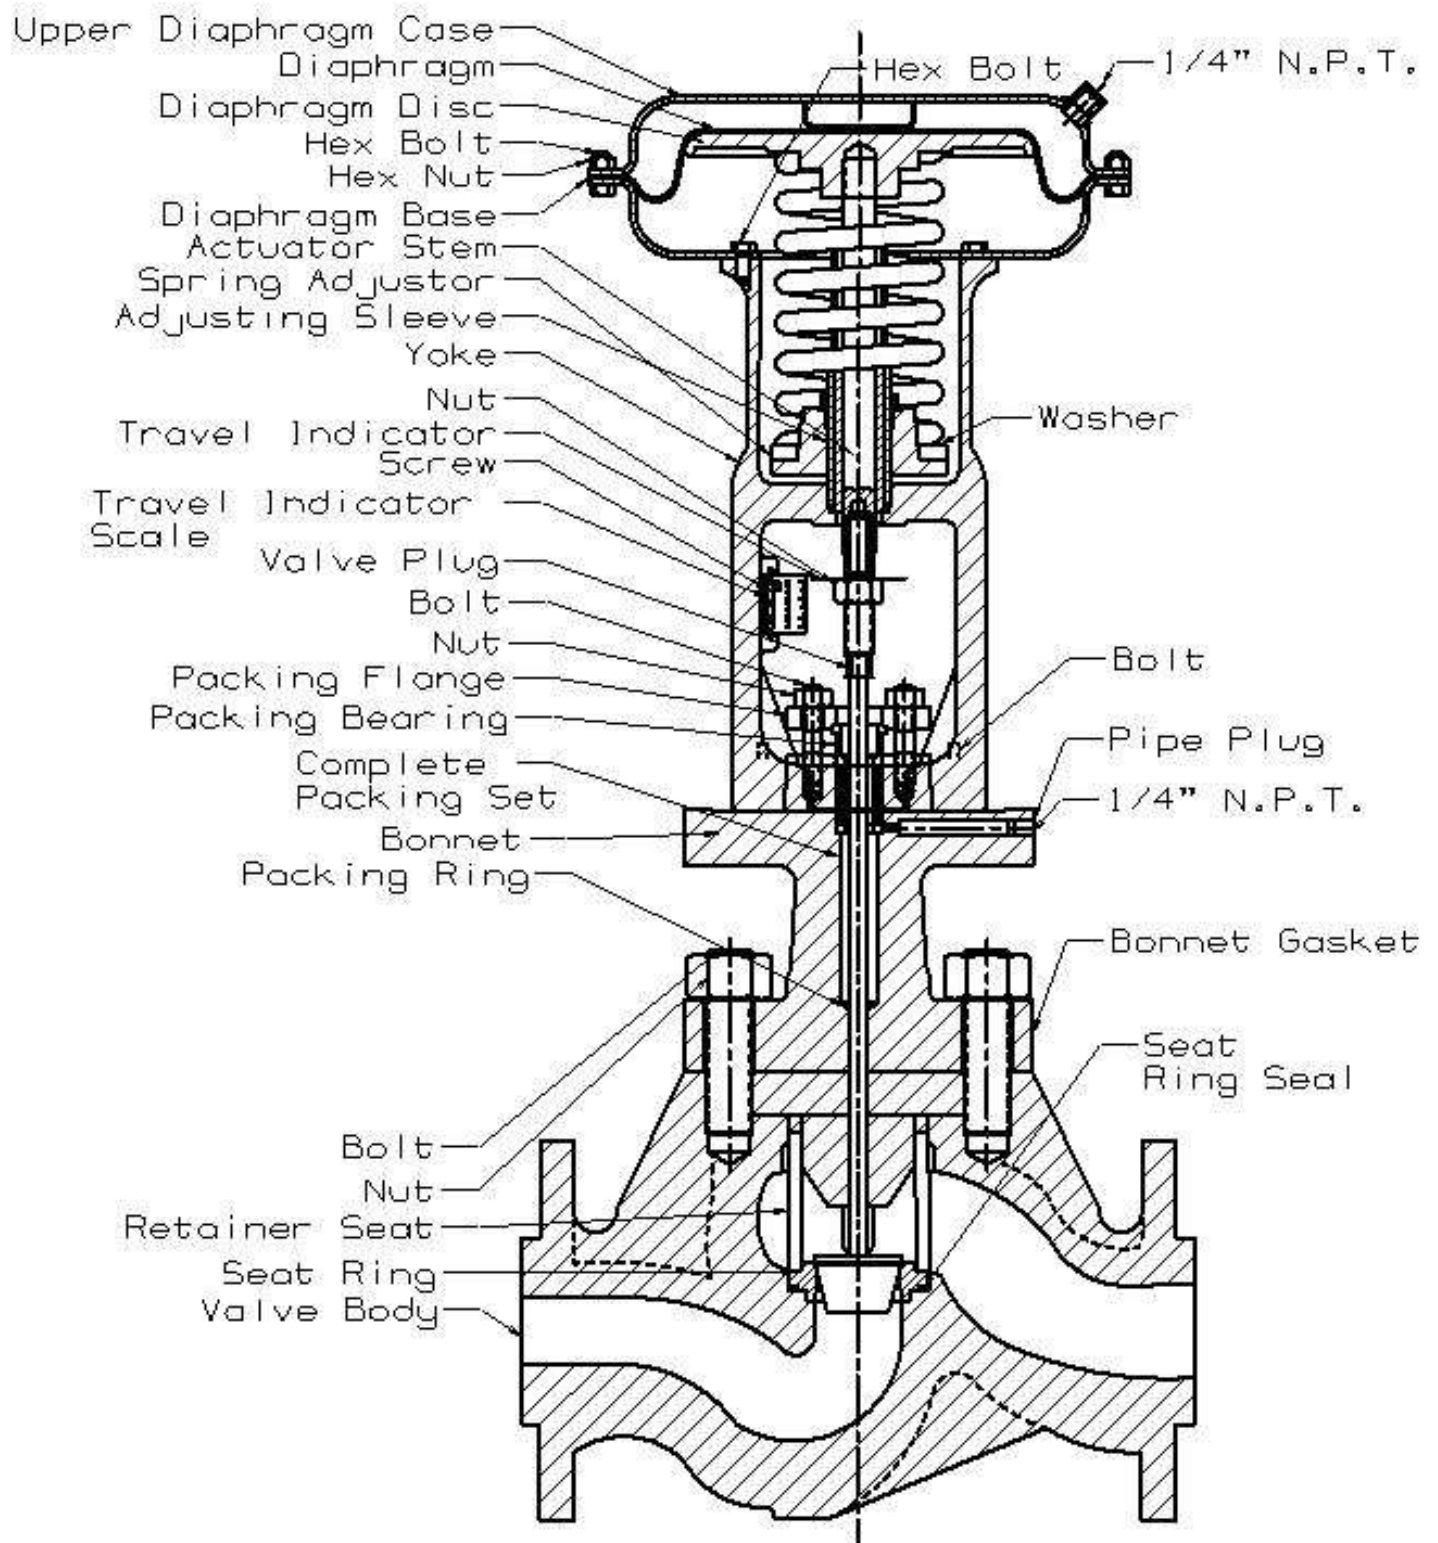
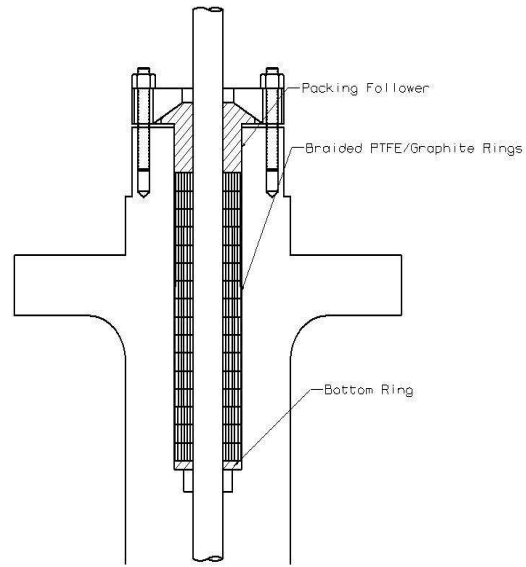

Figure 3 - Typical Valve Cutaway
Figure 4 - Installation Sequence
(See Fig. 3, Fig. 4 and 5)
3. Install a new packing set of braided Teflon graphite or Teflon chevron rings as shown on packing installation sketch Fig. 3, 4 or 5. See previous section on renewing valve plug stem packing.
4. The packing bearings have a long wearing life material which under normal usage should not require replacement, however, if damaged or worn the packing bearing (12) and/or the bonnet (6) must be replaced. (Lower bearing in bonnet is not supplied separately.)
5. The gasket (8) and seal (3) should be replaced each time the valve body subassembly is disassembled for cleaning.